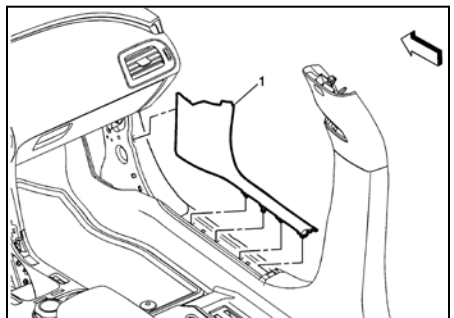

Fig. 2
6. Pull up at rear edge and pull rear-ward to remove front side door opening floor carpet retainer assembly (see Fig. 2).